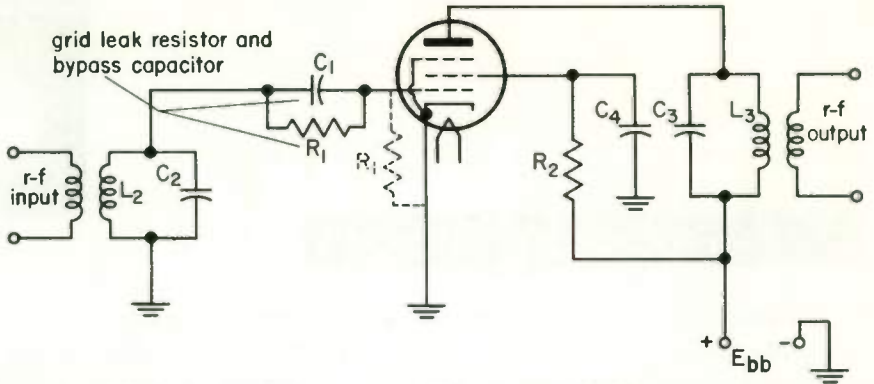
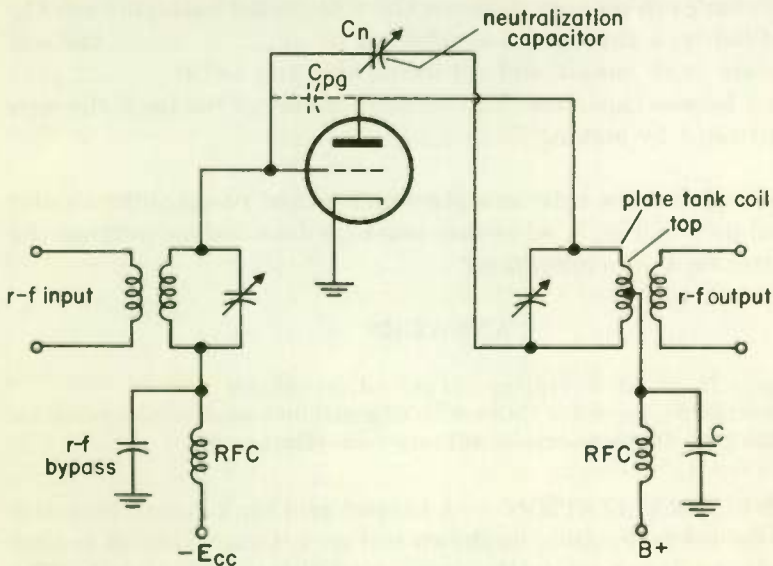

Fig. 1 A typical class C r-f power amplifier using grid leak bias.
Fig. 3 Plate (Hazeltine) neutralization.
The bias for class C amplifiers is often obtained by a grid leak arrangement as shown in Fig. 1. This arrangement has the advantage of simplicity; also, the bias tends to be self-adjusting with respect to the amplitude of the grid signal. The stronger the signal, the greater the negative bias developed by the grid leak.
The grid leak resistor must be electrically connected between grid and cathode as far as d-c is concerned. In Fig. 1, since L_2 has negligible
4 **PLATE NEUTRALIZATION . . .** Perhaps the most common method of achieving neutralization is by use of the plate, or Hazeltine, method illustrated in Fig. 3. Notice that the coil in the plate tank circuit is tapped and, as far as the r-f currents are concerned, the tap is returned to ground through the low reactance of bypass capacitor *C*.
It is interesting to note in Figs. 3 and 4 that a fixed-bias supply $-E_{cc}$ is used in place of the other bias arrangements shown in Figs. 1 and 2. Just remember that the method of bias used depends entirely on the application and may be fixed-source bias, grid leak bias, or cathode bias. With the fixed-bias arrangement an r-f choke, (RFC), is used to keep signal currents out of the supply source, while the bypass capacitor provides a ground return to the cathode for these same signal currents. Since the same power supplies usually furnish voltages to several different stages, any r-f currents entering the power supply might feed back to preceding stages and cause oscillations.
2. If you replaced the tube in a plate-neutralized r-f amplifier similar to that shown in Fig. 3, what else must be done before putting the transmitter back into operation?